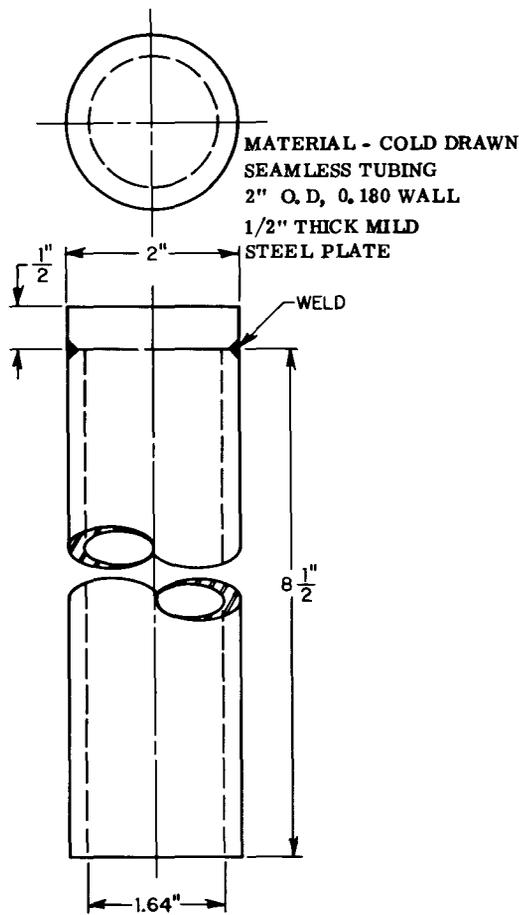

FIGURE 2
1. Rotor sleeve installation tool (Figure 2).